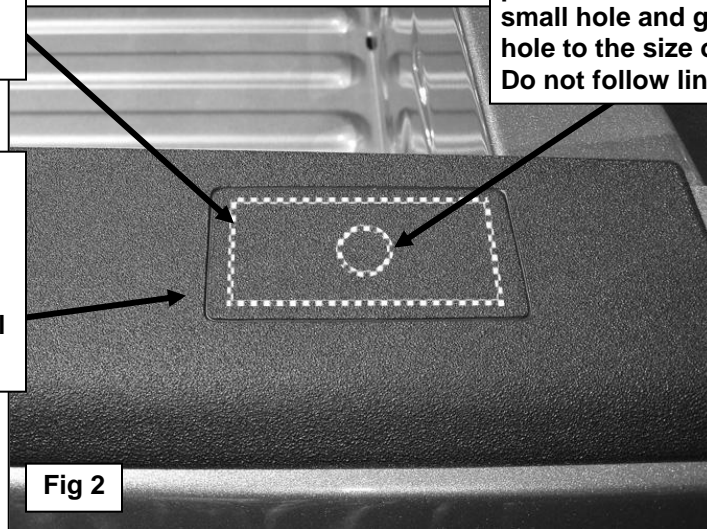

Fig 2
- b. **On vehicles without removable covers:** Locate the center of the stake pocket. Carefully cut or drill a small opening in the plastic cover in the center of the stake pocket. **WARNING**, verify exact location of stake pocket before drilling/cutting plastic cover or damage to top of bedside may result. Gradually enlarge the opening to the size of the stake pocket only, (Figure 2). **IMPORTANT, DO NOT** cut along factory lines molded into the plastic cover as these lines may not represent the correct location or size of the stake pocket and may be larger than the actual stake pocket opening.